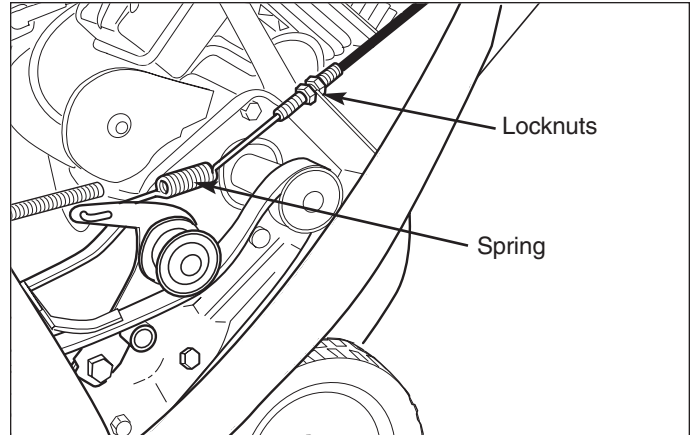

Figure 13. Auger Control Cable
2. Locate and loosen the lower locknut securing the auger control cable (shown in Figure 13).